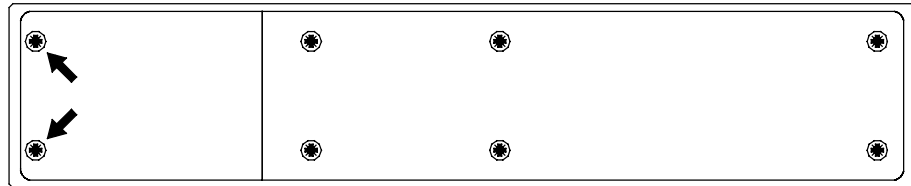

Figure 13 – Removing the Remote Control battery cover
**do this:** Turn the Remote Control unit over and remove the 2 screws shown in **Figure 13** using the 1-point Pozidriv screwdriver supplied. Please do not use a Philips head screwdriver as this will damage the screw heads. Lift off the battery cover.